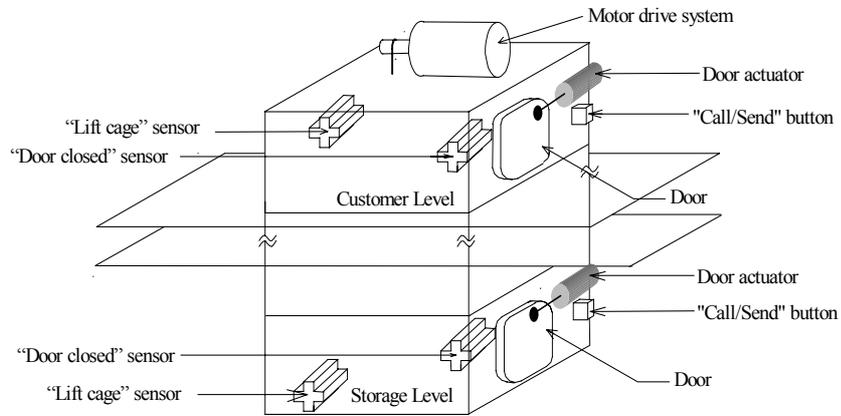

Figure 12 (a)
12. Figure 12(a) illustrates a simplified lift system used to transport warehouse goods between the “storage level” and the “customer level” in a retail outlet. The system is presently controlled by a microcontroller.